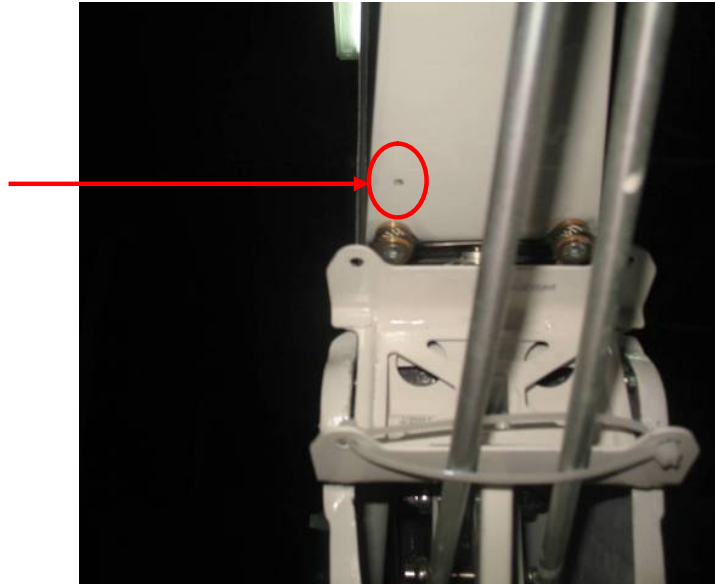

Fig. 55-40-5
B. Drain Holes Inspection (Fig. 55-40-5)